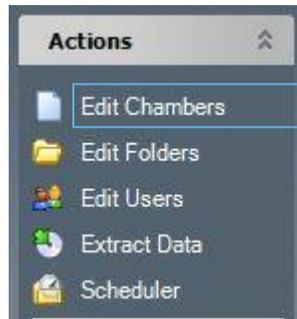

Figure 2-19 Edit Chambers
1. From the **Actions** menu, select Edit Chambers (Figure 2-19).